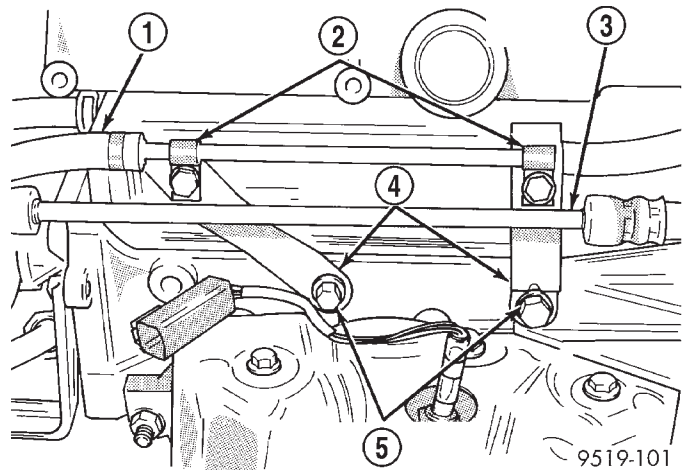

Fig. 10 2.5 Liter Power Steering Hose Routing
(4) Remove the 2 routing brackets (Fig. 10) attaching the power steering return hose to the power steering pressure hose routing brackets. Then remove the 2 bolts attaching the power steering pressure hose routing brackets to the cylinder head (Fig. 10).
(5) Correctly route power steering pressure hose avoiding tight bends or kinking of the hose. Install power steering pressure hose routing brackets and attaching bolts on engine (Fig. 10).
(6) Route power steering pressure hose to pressure port on power steering gear. Install power steering pressure hose, on steering gear and loosely install tube nut into steering gear. Then using a crow foot,